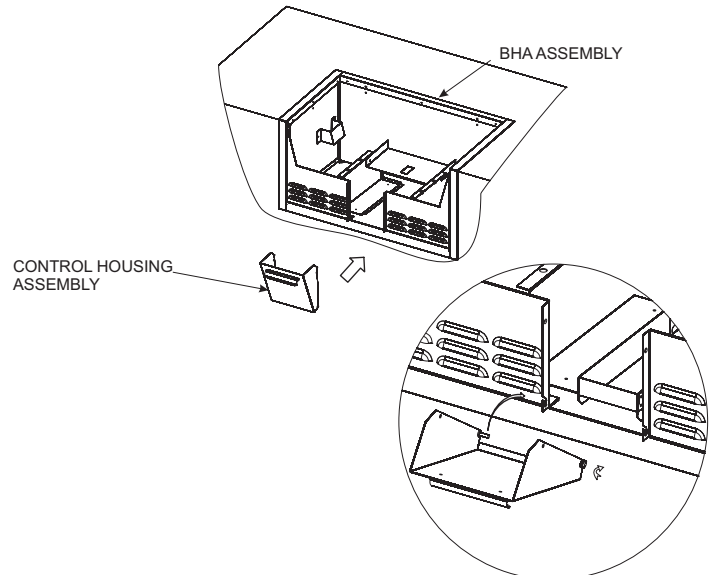

Figure 4
4. Place the control housing assembly into BHA surround and secure it to the BHA surround. See Figure 4.